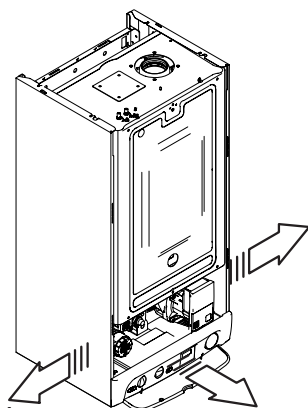

Fig. 6.14
- Remove the side panels or move the lower part of the side panels as indicated in Fig. 6.14 and pull the control panel. When completely pulled out, the panel can rotate 45° downwards to facilitate the operations on the internal parts.